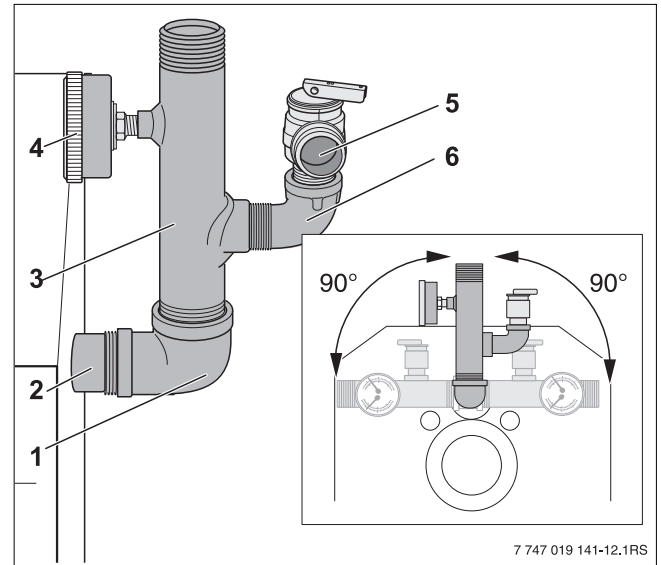

Fig. 14 Installing B-Kit
- ▶ Fit and seal manifold to 90° elbow. The manifold can face in different directions (→ Fig. 14).
- ▶ Seal pressure relief valve connection (→ Fig. 14 NOT DEFINED, page 19) and all other open connection with blind plugs.
- ▶ Installing pressure relief valve (→ Fig. 14 NOT DEFINED, page 19)